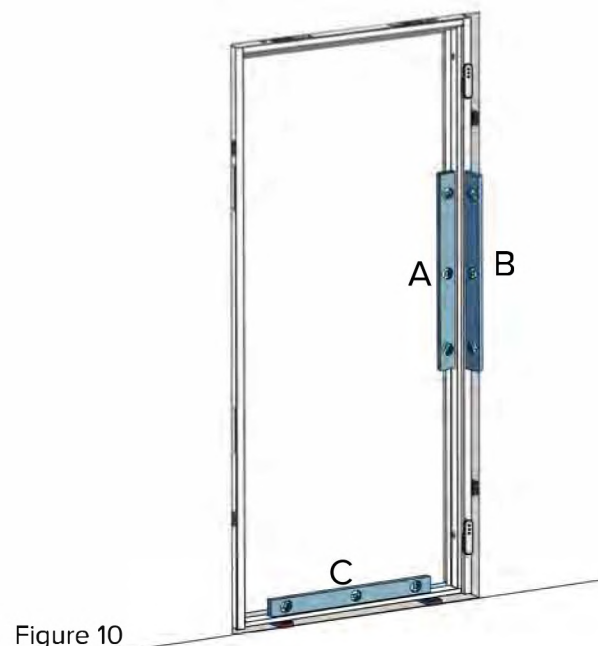

Figure 10
3.5. Align the door frame with the help of a builder's level from hinge side. To check the vertical, the builder's level shall be applied to the inner, wide shelf of the frame (A); to check the inclination, the builder's level shall be applied to the front trim of the frame (B); to check the horizontal, the builder's level shall be applied to the threshold (figure 10).